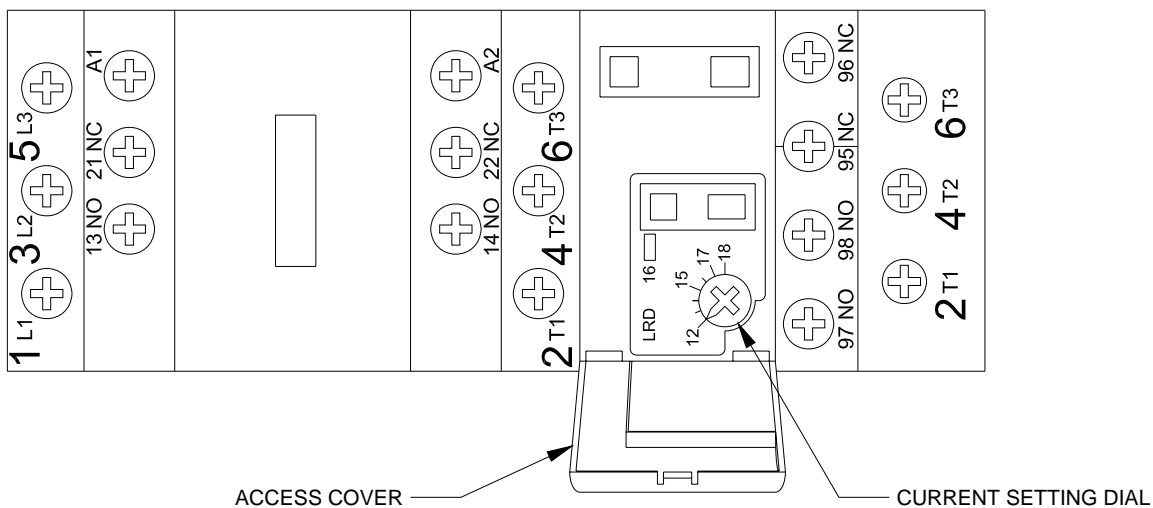

**Figure 3-2. Voltage Change Detail**
Changing line voltage is accomplished by moving four wires to the required voltage terminals. The required location is shown in Figure 3-2. To change the voltage setting, loosen the four terminal screws in the voltage-change terminal block to which the wires are connected and move the wires to the required voltage position. The wires are held in place in a locator card to maintain their spacing and prevent mis-wiring. The screws in the new terminal location must be loosened four full turns to allow the entry of the wires. Move all four wires at once by lifting the locator card to extract the wires from the terminals. Move the card and wires to the correct location and insert the wires completely so that the card rests against the terminals. While holding the locator card in place to keep the wires fully inserted, tighten the terminal screws. The recommended torque requirement is 0.5 Nm. Also, tighten the four terminals where the wires were previously.
When the power wiring, voltage setting and current setting are complete, install the wiring cover with the six (6) 6-32 × 3/8 screws provided. The wiring cover installation is shown in Figure 3.7. Be sure that the voltage indicator tab of the voltage locator card (Figure 3.2) shows through the correct indicator slot in the wiring cover.